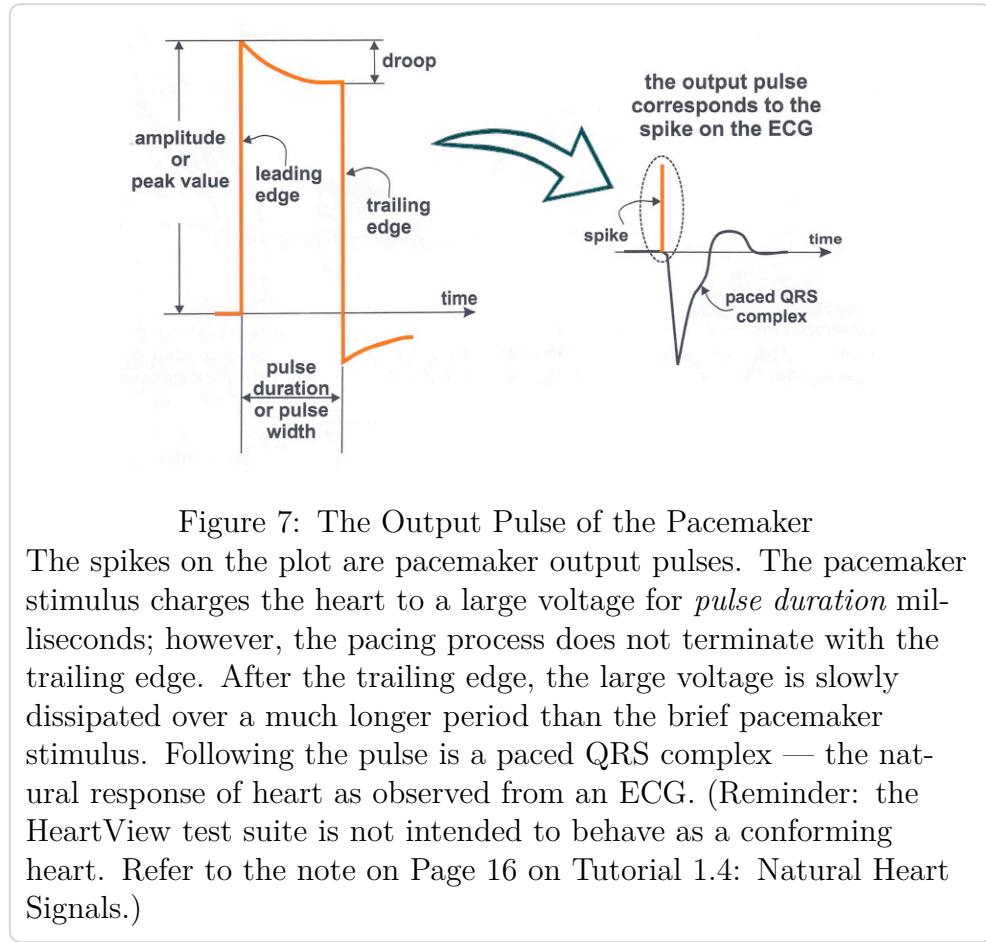

Figure 7: The Output Pulse of the Pacemaker
The LPF represents Component 3 on Figure 7 (Pacing Flowchart Overview) in **Pacemaker Shield Explained**. For the pacing circuitry, the output voltage is used to charge capacitor C22. Refer to Figure 12 in **Pacemaker Shield Explained**: by varying the output voltage, what pulse characteristic of the pacing stimulus would be affected? (Note that the pulse width of the PWM signal is *not* the same as the pace width of the pacing stimulus!).
2. Refer to Figure 7 in this document. Can you draw a single vertical line on the left image in Figure 7 to distinguish the two states shown in Figure 9 of pacemaker shield explained?